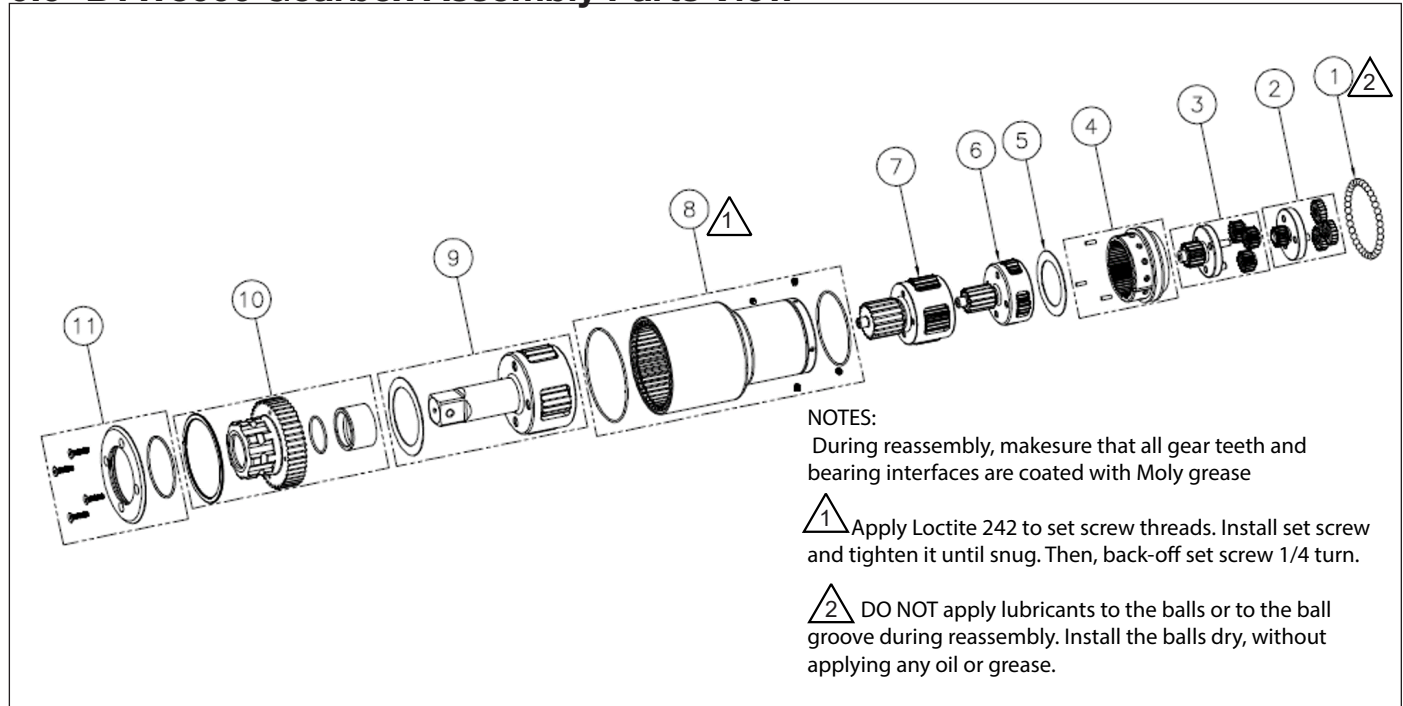

Figure 10: TW3000SR Gearbox Assembly
9.6.1 Table of Parts (Figure 10)